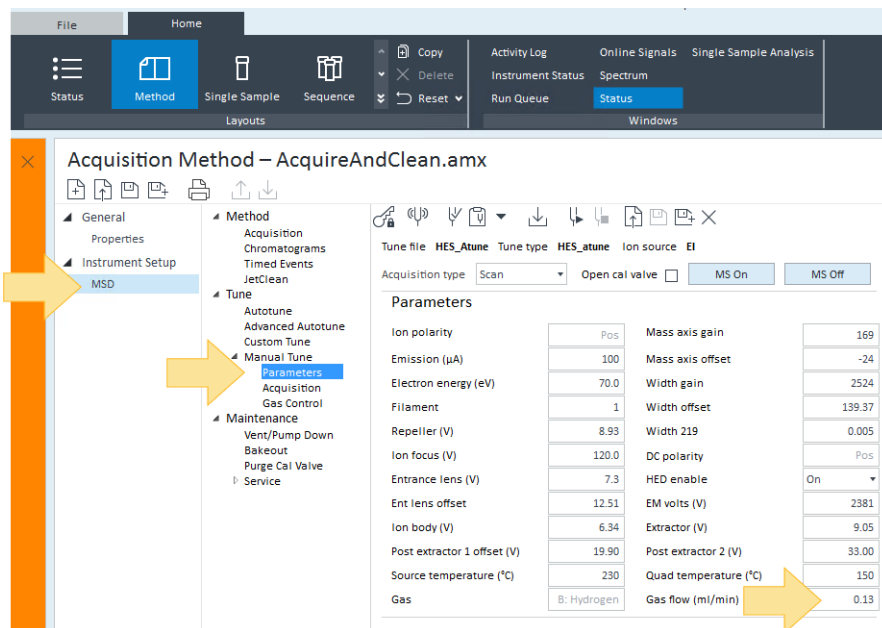

Figure 19. Manual Tune parameters
- b Select **Tune > Manual Tune > Parameters** and set the hydrogen **Gas flow** parameter to **0.13**. When developing your **Acquire and Clean** method, it is important to obtain the lowest possible hydrogen flow, while still observing good results. (See **Figure 19** on page 36.)